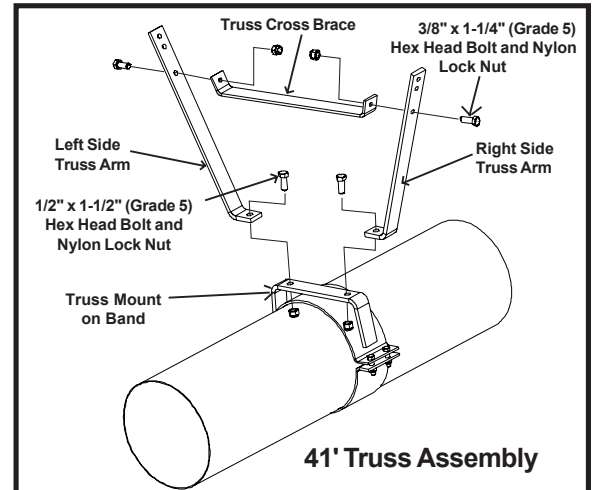

Fig. 13-A
B. 47' & 53' Truss and 65' & 71' Upper Truss Assembly (See Fig. 13-B)
1. Attach right and left side truss arms to the left and right side of the truss mounting band using four (4) 1/2" x 1-1/2" (grade 5) hex head bolts and nylon locknuts. TIGHTEN BOLTS ONLY FINGER TIGHT AT THIS TIME.
2. Fasten the truss crossbrace to the left and right side truss arms using two (2) 3/8" x 1-1/4" (grade 5) hex head bolts and nylon locknuts.